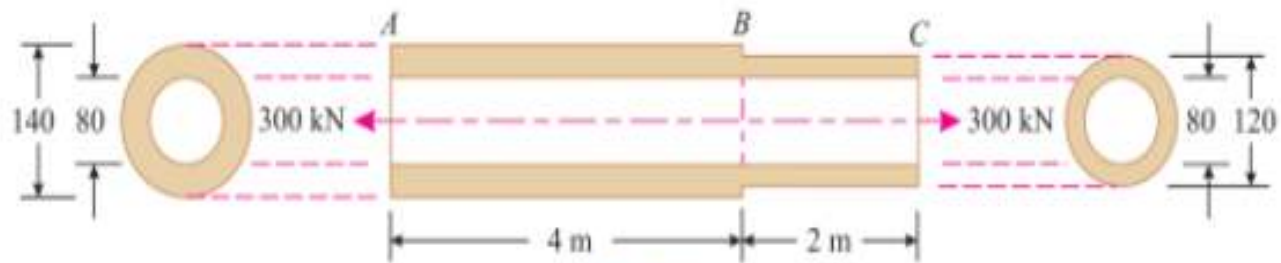

Fig. 4.4
**EXAMPLE 4.3.** A 6 m long hollow bar of circular section has 140 mm diameter for a length of 4 m, while it has 120 mm diameter for a length of 2 m. The bore diameter is 80 mm throughout as shown in Fig. 4.4.